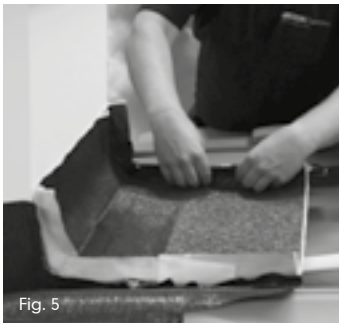

Fig. 5
- 5 Attach the ridge-side connection to the previously created roof valley framing (Fig. 5). The cut piece here is the same length as on the eaves side. Depending on the roof slope and appearance, a double fitting or 450mm wide tape may be necessary.